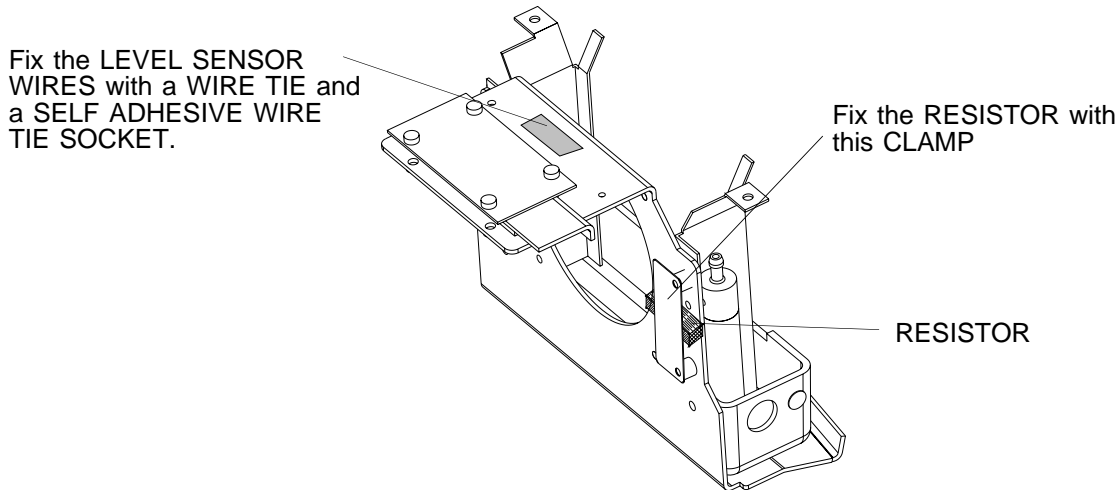

figure 2-7
19. Insert the WIRES and PINS from the LEVEL SENSOR into PINS 1 and 3 of the brown SOCKET of the HARNESS. See WIRING DIAGRAM figure 1-3. Fix the WIRES with a WIRE TIE and a SELF ADHESIVE WIRE TIE SOCKET to the HUMIDIFIER FRAME. See figure 2-7